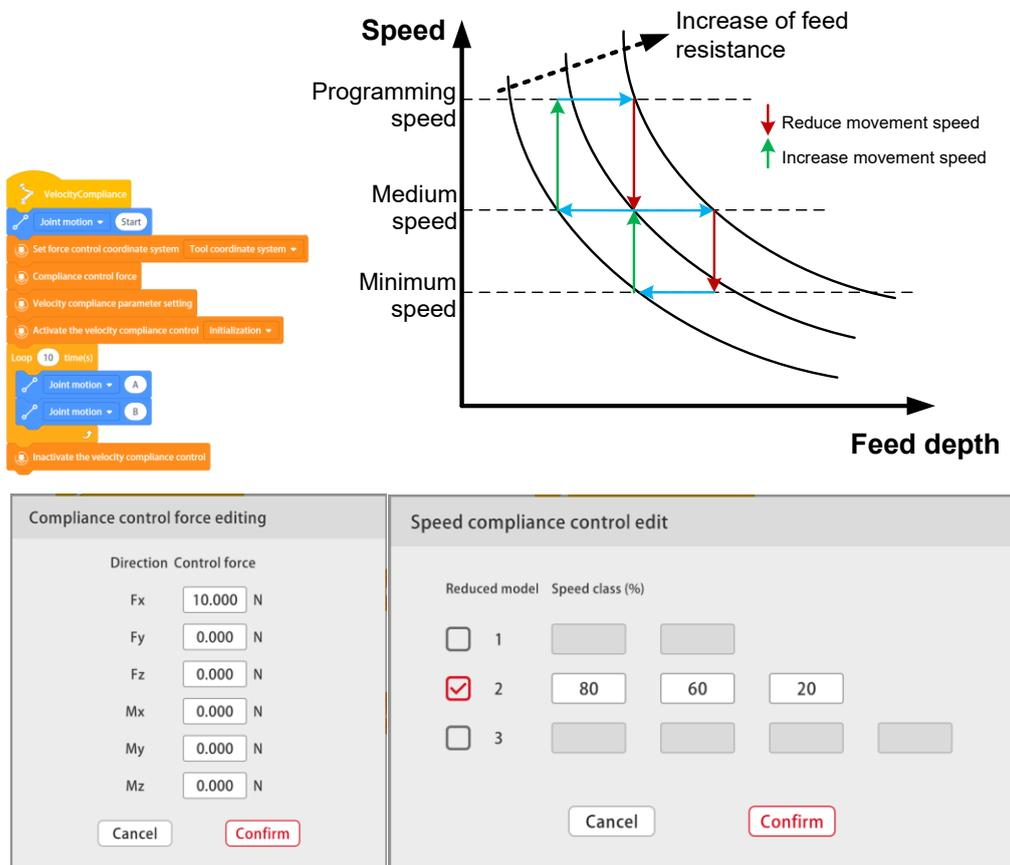

Figure 3-13 Velocity Mode Programming of Jaka Zu Se
- b. As shown in Figure 3-13, write a program with the program blocks of [Set force control coordinate system], [Velocity compliance parameter setting], and [Compliance control force], [Activate the velocity compliance control] and [Inactivate the velocity compliance control]. The scene for the example program in Figure 3-13 is that the robot reciprocates in the x direction while controlling the contact force;